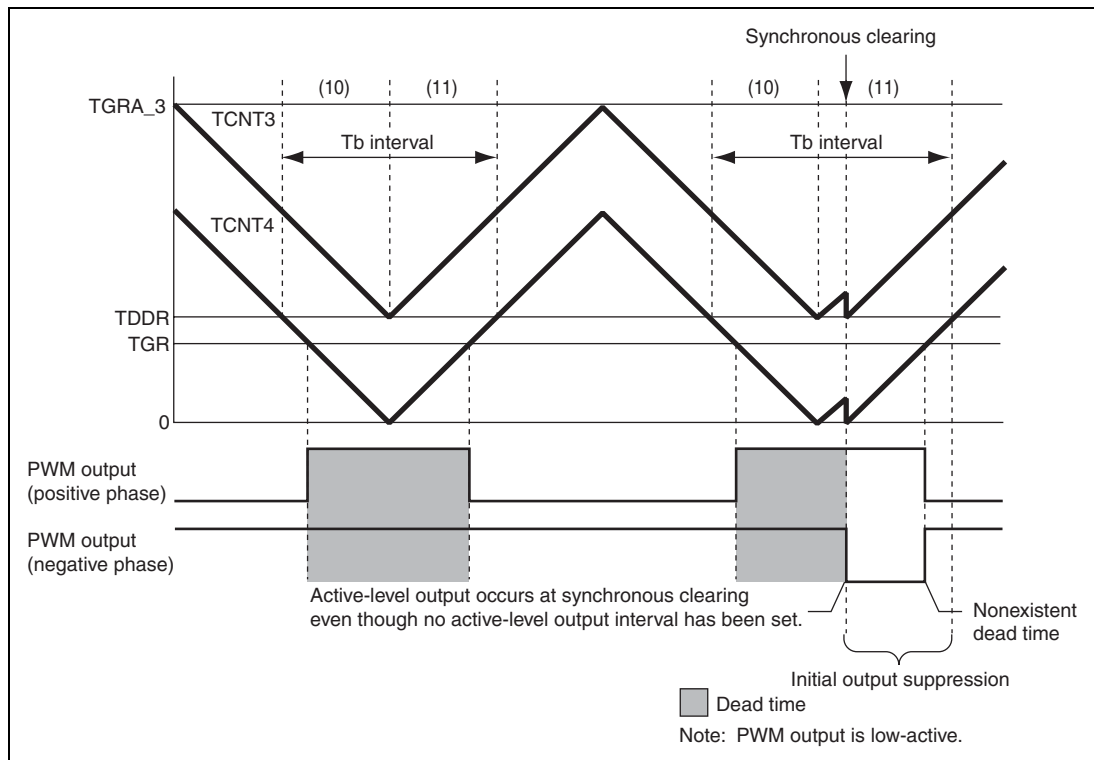

Figure 10.137 Condition (2) Synchronous Clearing Example
Condition (2): When synchronous clearing occurs within initial output suppression interval (10) or (11) and $TGRB_3 \leq TDDR$, $TGRA_4 \leq TDDR$, or $TGRB_4 \leq TDDR$ is true (figure 10.137).